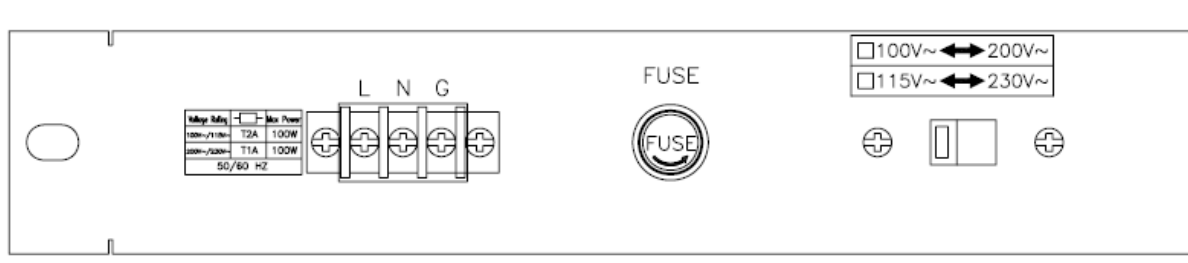

Figure 5-3: 5D36-24 Input Voltage Selector Switch Location
2. Refer the drawing on the rear panel of 5D Series load in Figure 5-3, set the switches to the proper voltage as indicated below.